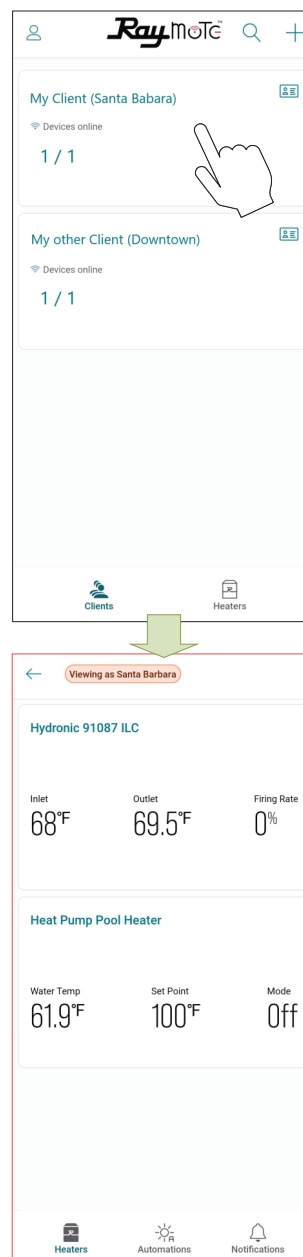

Figure 120. Access your Client's Heaters
7. You can access your client's heaters by clicking in each client tile. See Figure 120.